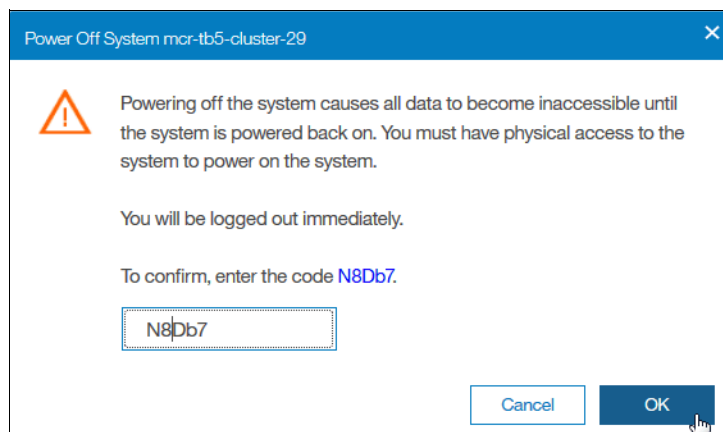

Figure 12-116 Power Off System confirmation window
2. Confirm that you want to power off the system by entering the confirmation code and clicking **OK**, as shown in Figure 12-116. Ensure that all FlashCopy, Metro Mirror, Global Mirror, data migration operations, and forced deletions are stopped or allowed to complete before you continue.